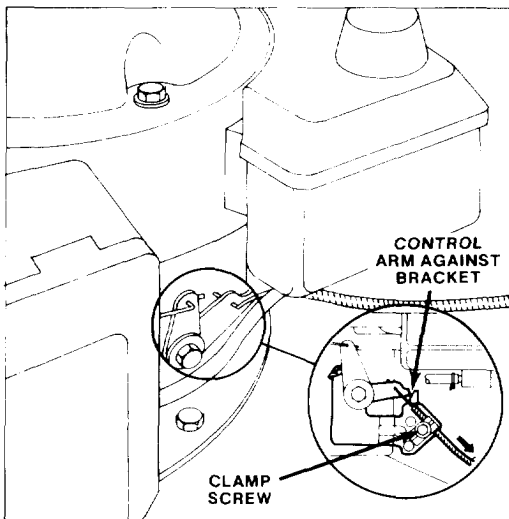

Figure 16
3. Loosen cable clamp screw until throttle cable slides (Fig. 16). Hold carburetor control arm down against throttle control bracket. Pull throttle cable slightly to remove any slack and tighten cable clamp screw to lock adjustment in place.